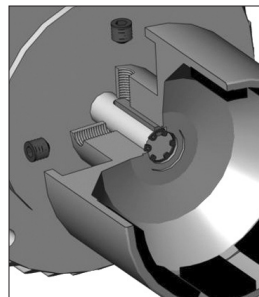

Figure 7
NEMA Motors: Install (2) 3/8" set screws (item 17B) into threaded holes on the side of the outer drive magnet assembly. Using a 3/16" Allen bit & torque wrench, tighten to 228 in-lbs (25.8 N-m). See figure 7.